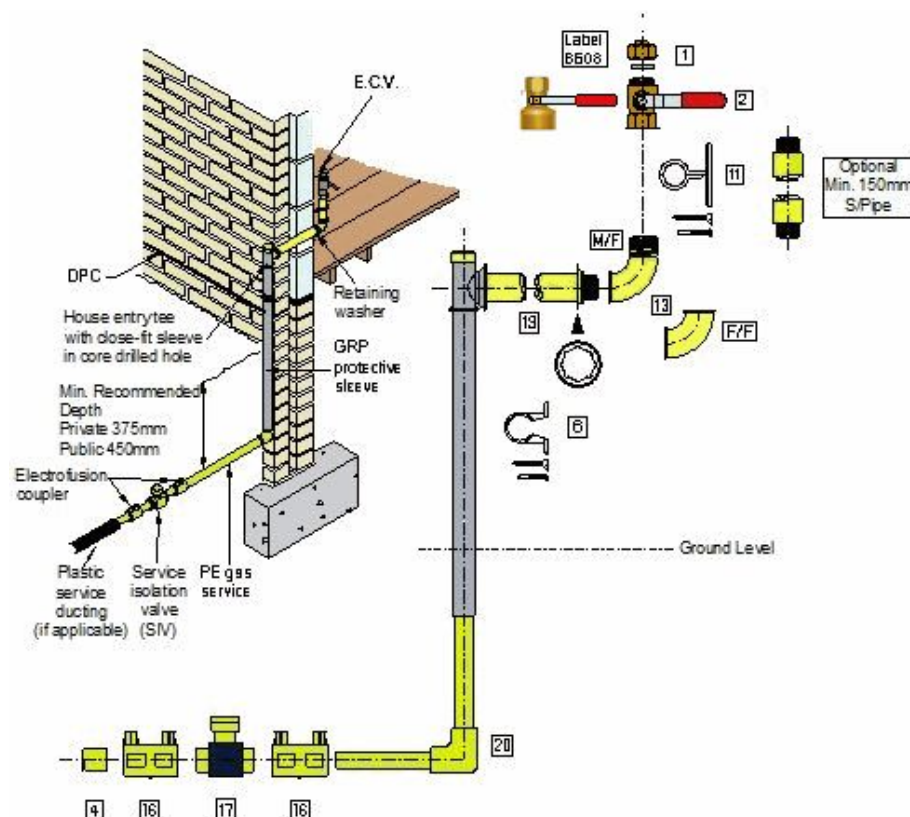

Figure 79 - LP Service using above ground entry tee
*Note: Typical layout is shown in Figure 79 for sizes up to and including 32mm and Figure 80 for 63mm.*